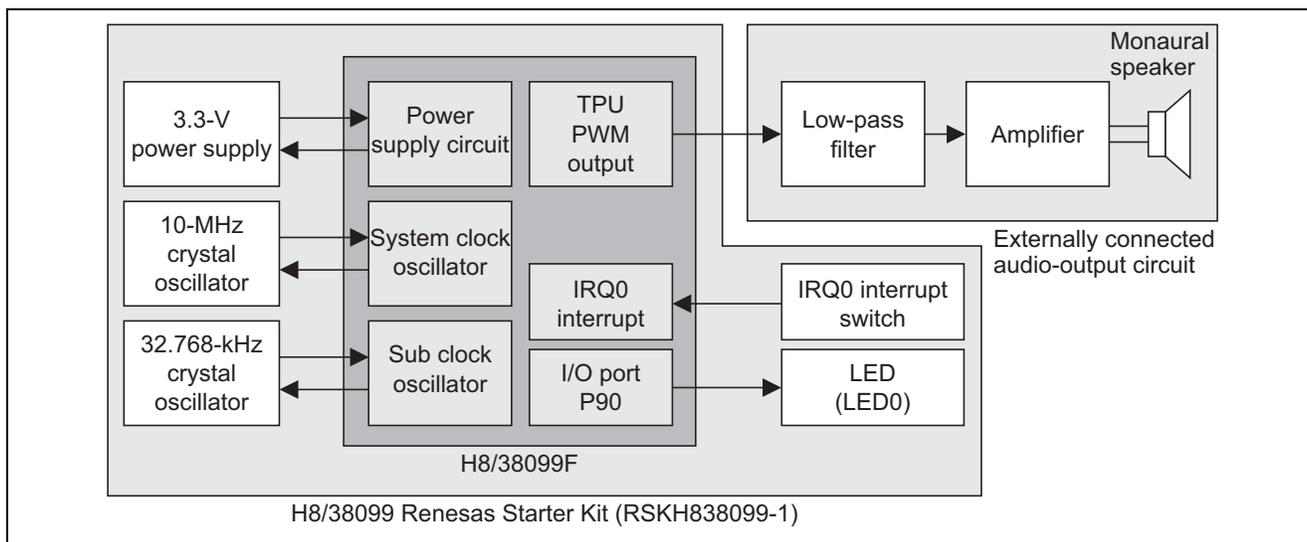

Figure 1 Block Diagram of Hardware
- (1) The 16-bit timer pulse unit (TPU) of the H8/38099F is used for output of a voice sound in PWM mode.
- (2) Non-compressed 8-bit-length audio data (PCM data), sampled at 8 kHz, are stored in on-chip flash memory of the H8/38099F product.
- (3) A low-pass filter and amplifier are externally connected to a PWM output pin (TIOCA1) to drive output of the voice sound from a speaker.
- (4) Pressing the $\overline{\text{IRQ0}}$ pin interrupt switch starts output of the voice sound. The LED connected to the I/O port (P90 pin) lights up during audio output.
- (5) A block diagram of the hardware for this sample task is shown in figure 1. In this sample task, audio output is realized by externally connecting an audio-output circuit (low-pass filter, amplifier, speaker, etc.) to the starter kit (RSKH838099-1) manufactured by Renesas Technology.